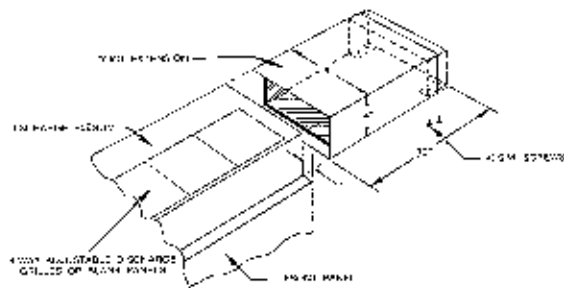

Figure 3. Duct Extension Dimensions—Typical
- Install duct extension into the right or left end of plenum depending on the application. The duct is held in place by clips located in discharge plenum. The unused end of the plenum is blocked off with the end cap. (See Figure 3.)
7. Install duct extension, end cap, control door, discharge grilles and adjust air flow as described previously. (See Figure 3.)
The installation of the top discharge room outlet will require the use of at least one duct extension and a retaining bracket. (See Figure 3.)